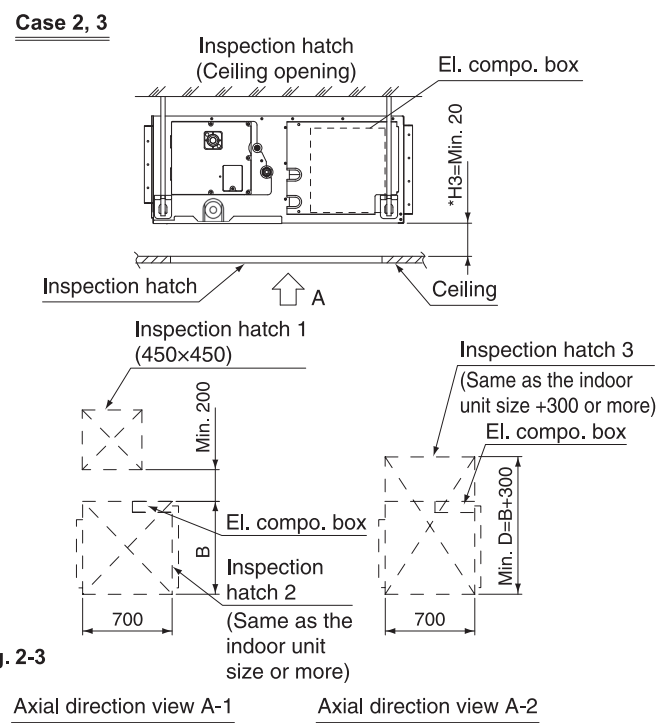

Fig. 2-3
2. Inspection hatch 1 (450 × 450) for the el. compo. box and inspection hatch 2 for the lower part of the product (see axial direction view A-1). (Refer to Fig. 2-3)
3. Inspection hatch 3 for the lower part of the product and the lower part of the el. compo. box (see axial direction view A-2). (Refer to Fig. 2-3)